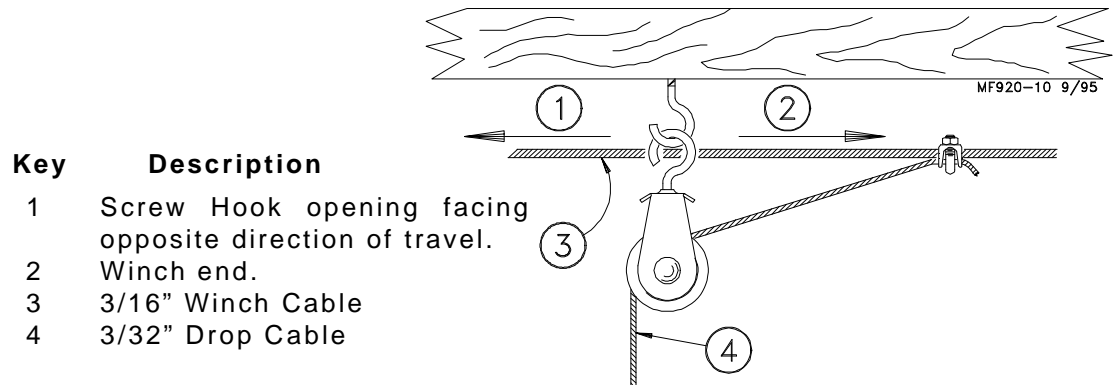

Figure 32. Screw Hook Installation (Side View)
Refer to **Figures 32 or 33 through 36** for specific installation instructions for the screw hooks and ceiling hooks.
2. The openings of the screw hooks must be pointed away from the direction of travel when the Power Winch raises the feeder line. See **Figure 32**.
- Thread the end of the 3/32" or 1/8" cable through the pulley toward the winch. Clamp this end to the 3/16" winch cable about 6" (150 mm) from the last pulley, using a 3/16" cable clamp. See applicable figure; **Figure 32 or 37**.